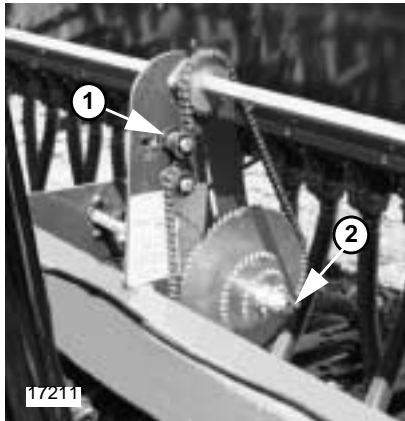

Figure 3-2
Loosen idler (1) and remove drive chain shown in Figure 3-2. Remove lynch pin from shaft (2) and re-arrange sprockets on shaft.